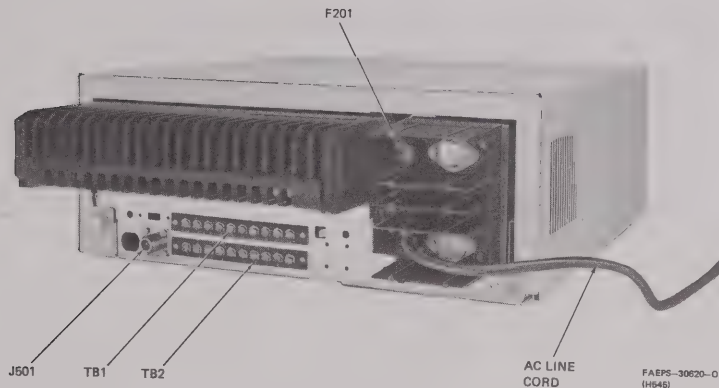

Figure 1. Location of Connectors
Connect the antenna transmission line terminal to the antenna jack J501 provided on the back of the control station as shown in Figure 1.
9.6.2.1 Table 1 provides the information required to connect one or two extended local desk sets to the control station. If two extended local desk sets are installed, their leads are wired in parallel at the control station terminal strips (see Figure 1 and following diagram 4-SP5290317).
9.6.2.2 Table 2 provides the information required to connect three to six extended local desk sets to the control station (see Figure 1 and following diagram 6-SP5290317).
9.6.2.3 Table 3 provides the information required to connect extended local desk sets with series strung TDN7237A Junction Boxes (see Figure 1 and following diagram 7-SP5290317).